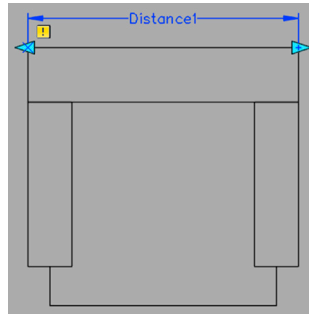

FIGURE 7.10 Dynamic Block, Step 1.
Step 1. Open the Parameter tab on the palette and pick the Linear parameter. That, after all, is the way scale works, by linearly scaling up an object. First, pick the upper left corner start point, then pick the upper right corner endpoint of the chair (like adding a horizontal dimension). The result is shown in Fig. 7.10. Note that a yellow exclamation point is seen as a reminder that no action has yet been added to this new parameter.
Another useful feature you can try is called *Value Set*. Add a linear parameter and action to the door (exactly like Distance 1 in Fig. 7.10). Then, while Distance 1 is selected, go to the Properties palette, Value Set category, and for the Dist type on the left side, select List on the right. Just below that for Dist value list, enter a few incremental values greater than 36" (the current door size), such as 48", 60", and 72", into the Add Distance Value dialog box. After you complete this step and go to test the door by clicking on the scale grip, you see a series of tick marks appear and you can increase the sizing only incrementally, as opposed to arbitrarily. There is quite a bit more to dynamic blocks, of course, and you can combine many features to create new ones.